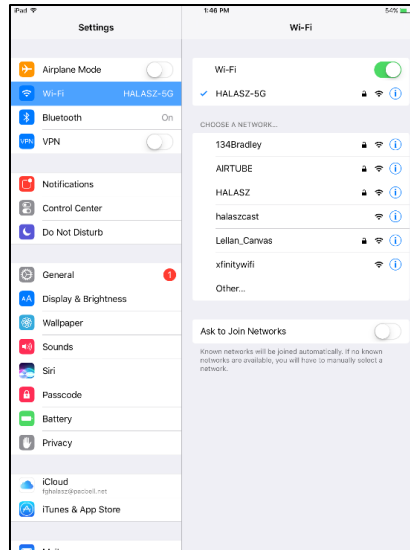

Figure 5-13: The iOS Wi-Fi Settings App
- In the iOS Settings App, tap the Wi-Fi settings entry in the left-hand column on the screen. This will fill the right-hand column with a list of SSIDs for Wi-Fi networks visible to the iPad (Figure 5-13). One of these should be *Lellan\_Canvas*.